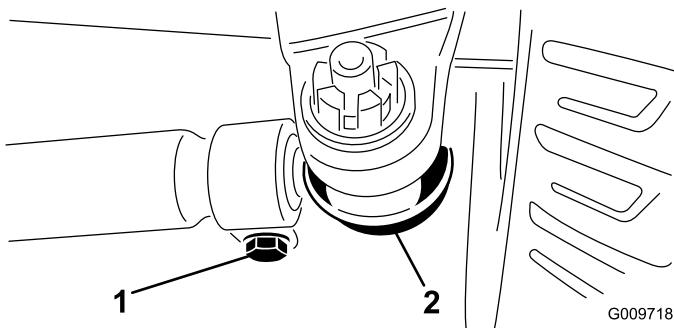

Figure 60
2. To adjust, remove the cotter pin and nut from either tie-rod ball joint (Figure 60).
4. Loosen the clamps at both ends of the tie rods (Figure 60).